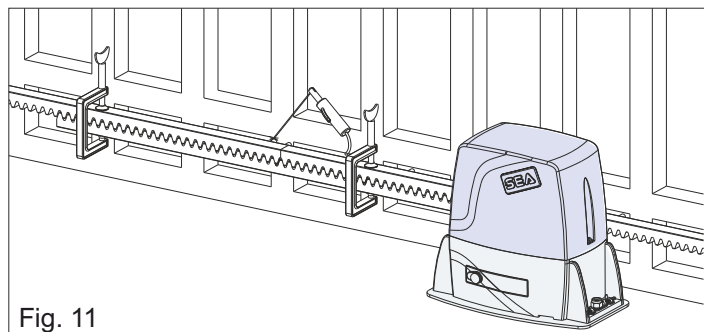

Fig. 11
5.4. Make sure that all the gear rack elements are perfectly aligned and correctly placed (the teeth must be in phase). It is suggested to oppose an element to two aligned elements as shown in Fig. 11;